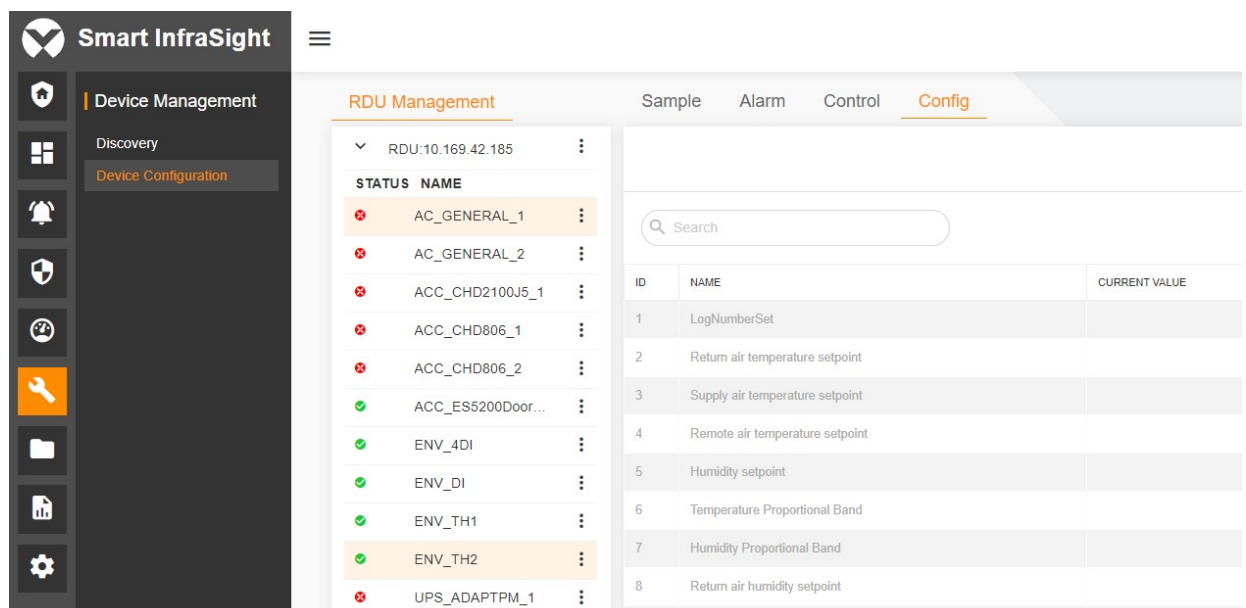

Figure 6-35 Displaying the configuration list
1. Click any device row under the RDU. The configuration list of the device is displayed on the **Config** tab page accordingly. When the **Device Configuration** page is loaded initially, the first device under the first RDU is selected by default (as shown in Figure 6-35).